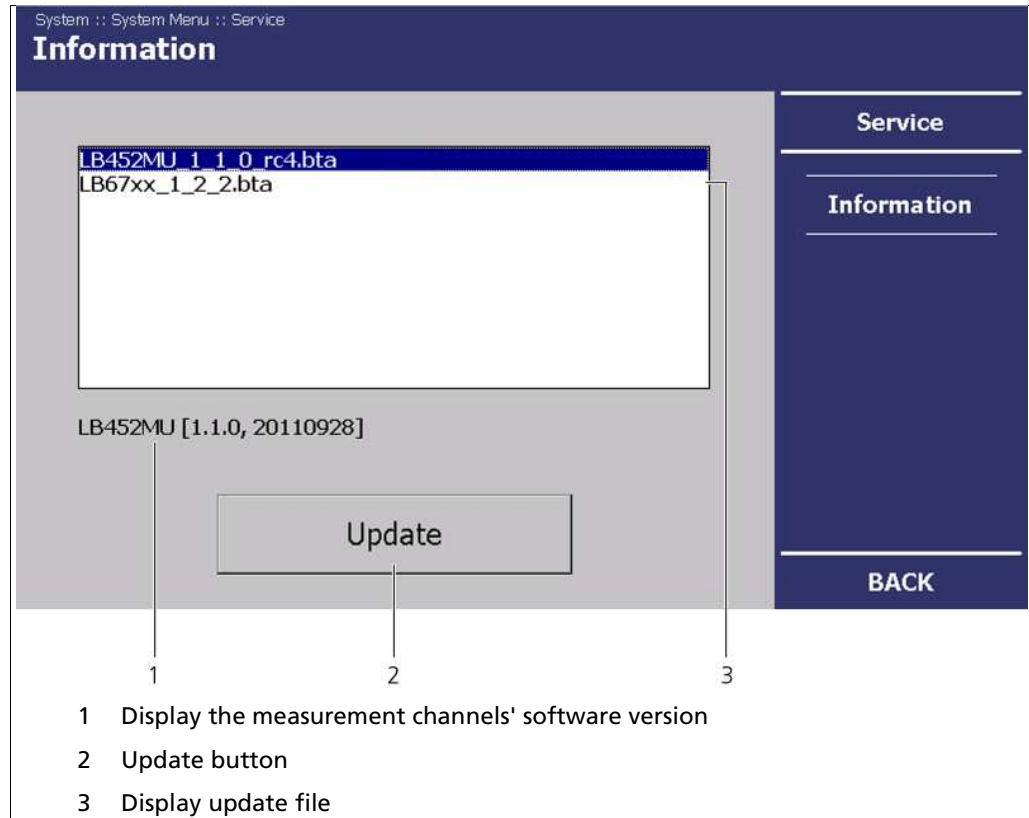

Fig. 44 System Menu, Service - Information (Measurement channels update)
3. Select the appropriate update file (Fig. 44, Pos. 3).
4. Click on **<Update>** (Fig. 44, Pos. 2).